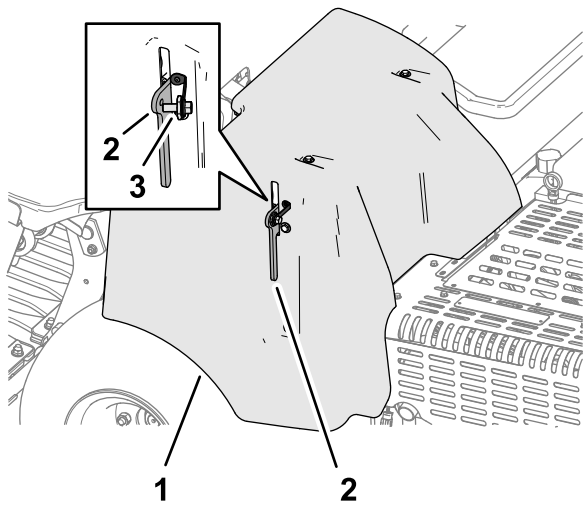

Figure 147
- If your machine has the CE belt-cover latch lanyard, thread the lanyard bolt into the hole in the cover latch, and tighten the bolt (Figure 147).